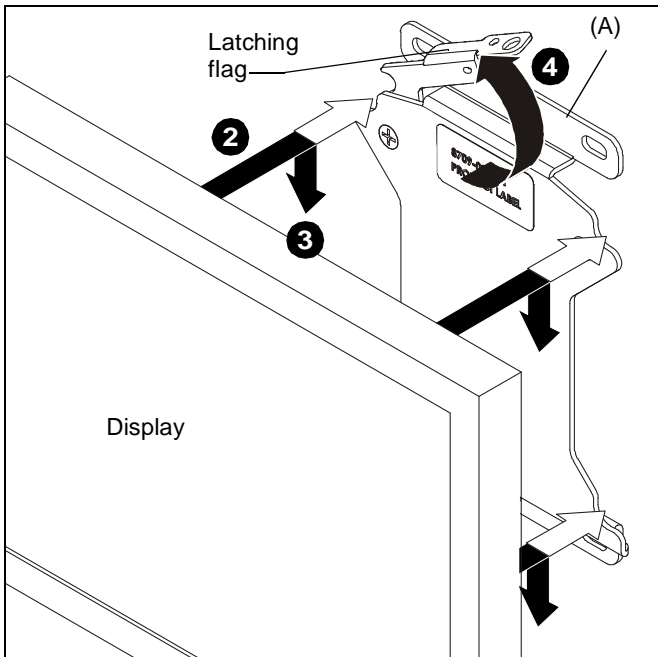

Figure 7
2. Lift and maneuver display such that all mounting buttons fit into openings on FSM (A). (See Figure 7)
3. Lower display firmly into place. Ensure each mounting button is fully seated. (See Figure 7)
4. Close latching flag by rotating flag counterclockwise on FSM (A). (See Figure 7)